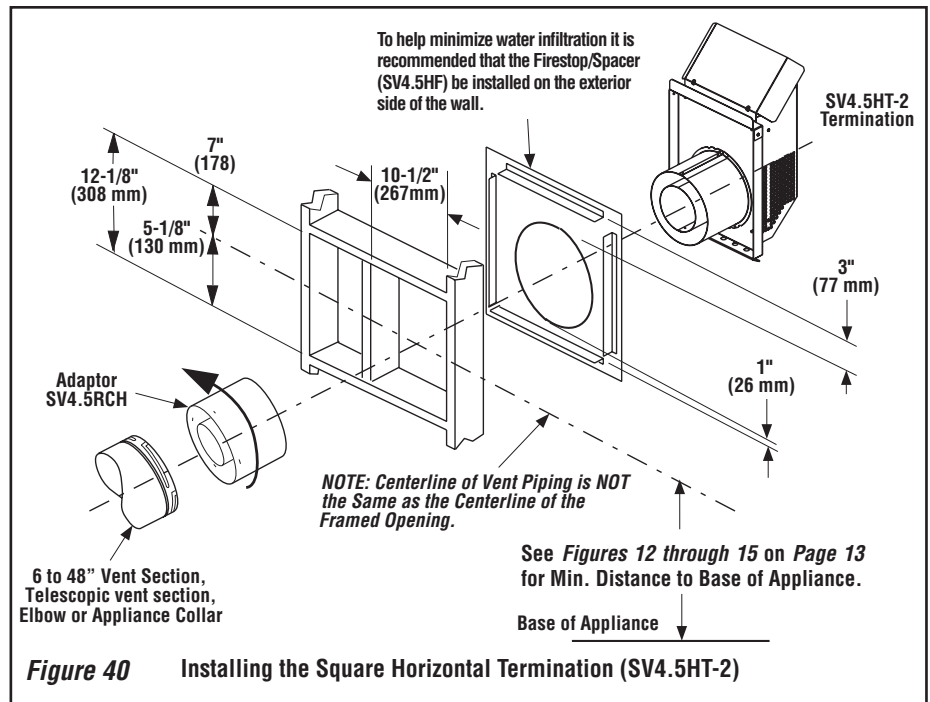

Figure 40 Installing the Square Horizontal Termination (SV4.5HT-2)
K. Attach termination adaptor - Attach the adaptor (adaptor - SV4.5RCH - provided with the termination) to the vent section or telescoping vent section), elbow or appliance collar as shown in **Figure 40** in the same manner as any SV4.5 vent component (refer to **Step E**).
L. Install Firestop/Spacer at exterior wall - When using the **square** termination, install SV4.5HF (Secure Vent®), SF4.5HF (Secure Flex®) Firestop/Spacer over the opening at the exterior side of the framing, long side up, with the 3 inch spacer clearance at the top as shown in **Figure 40**, and nail into place.